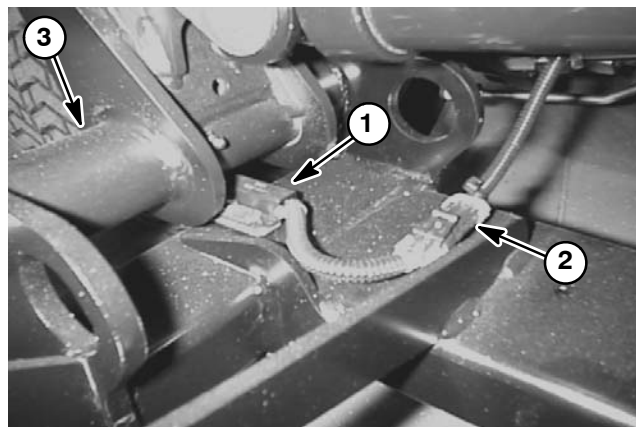

Figure 39
The cutting deck position switches are normally open proximity switches that are located on the traction unit frame (Fig. 39). The sensing plate is located on the cutting deck lift arm. The Groundsmaster 4500-D uses two (2) cutting deck position switches: for decks 4 and 5. There are four (4) deck position switches on the Groundsmaster 4700-D: for decks 4, 5, 6 and 7.